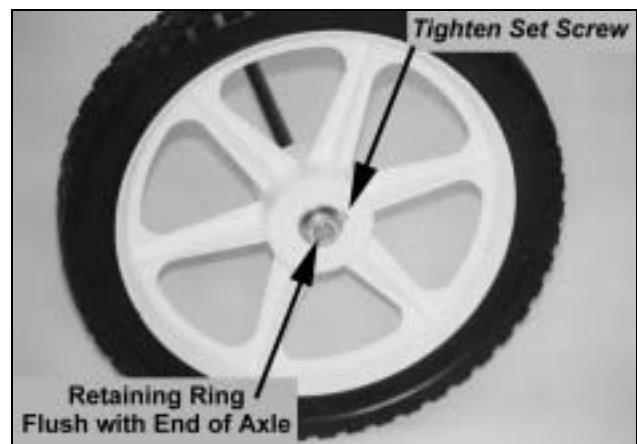

Figure 4
3. Mount the retaining ring so it is flush with the end of the axle, and tighten the set screw (*Figure 4*).